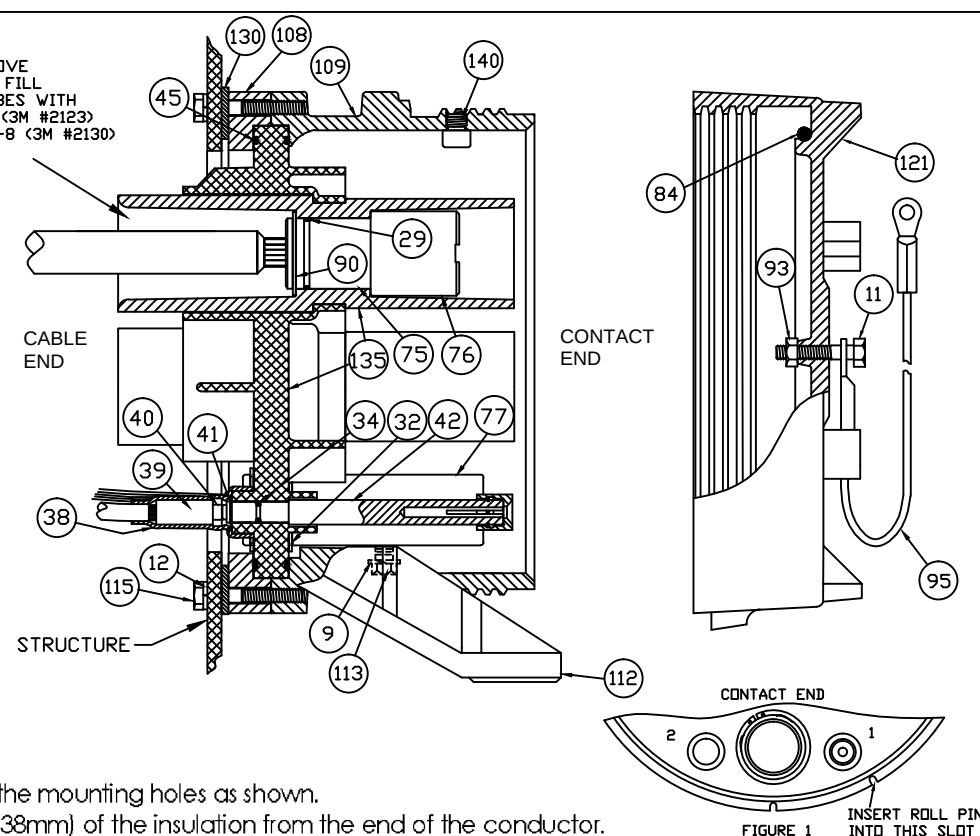

FIGURE 1 INSERT ROLL PIN INTO THIS SLOT
- Solder attach the phase conductors into the phase contacts (75) using (preferably) 50-50 solder. **DO NOT** cool the contact with water as this may cause a cold solder joint (high resistance).
- Solder attach the ground lead into the ground contact (77).
- Strip 1/2" (13cm) of insulation from the ground check conductor and solder attach it to the solder pot (39)
- On all three phases and the one ground contact, install the plated steel retaining rings (90) into the groove closest to the conductor, then insert the o-rings (29) into the second wider groove.
- Slide the insulator over the phase contacts and thread the nuts (76) onto the contacts. Next insert the ground contact (77) into the insulator plate and install the stainless steel retaining ring (32).
- Slide the heat shrink tubing (38) over the ground check conductor, then while holding the solder pot in place, turn the ground check contact (42) from the front side, threading it into the solder pot until the brass nut (40) is finger tight against the solder pot. Then tighten the nut (40) with a wrench while holding the solder pot with pliers.
- Make sure while installing the insulator assembly into the socket body, that the 1/8" roll pin in the socket body is aligned with the slot in the insulator plate as shown in figure 1.